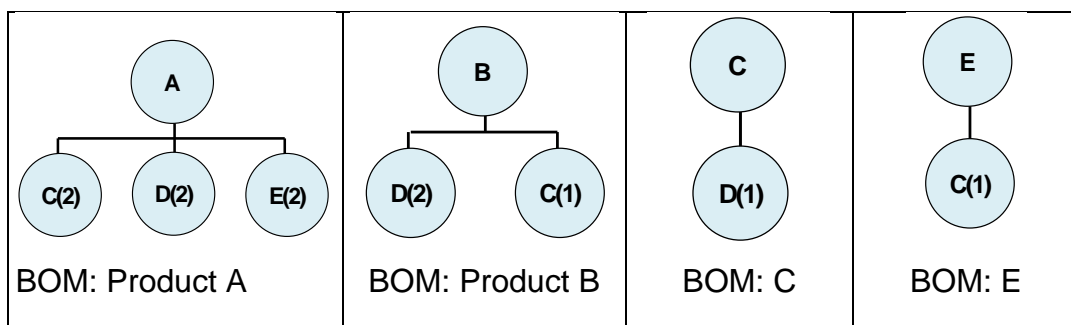

Figure: Q2
- b) The Bills of Material (BOM) for products A and B and components C and E are shown in Figure: Q2. The number of each component required is shown in brackets, for example product A contains 2 C components, 2 D components and 2 E components. Explain the purpose and use of low level coding and show how it is used to calculate the materials required for the production of A and B [3 marks]